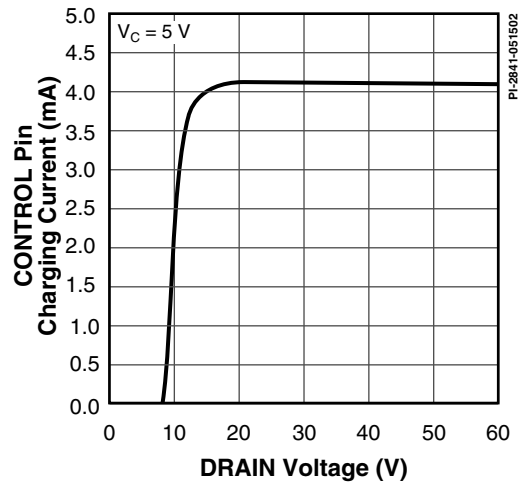

Figure 45.  $I_c$  vs. DRAIN Voltage.
- D. It is possible to start up and operate DPA-Switch at DRAIN voltages well below 16 V. However, the CONTROL pin charging current is reduced, which affects start-up time, auto-restart frequency, and auto-restart duty cycle. Refer to Figure 45, the characteristic graph on CONTROL pin charge current (IL) vs. DRAIN voltage for low voltage operation characteristics.